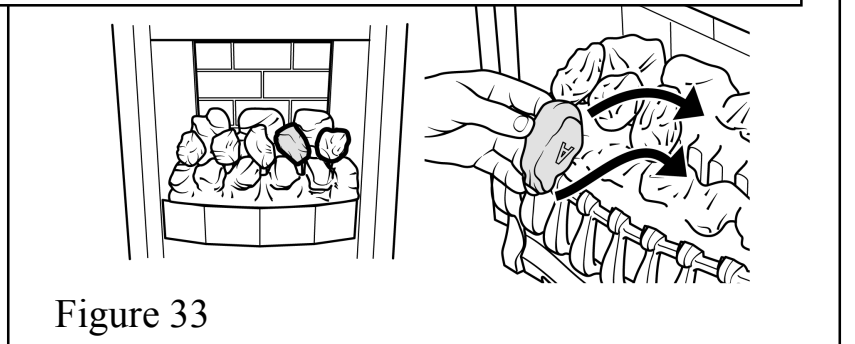

Figure 33
9. Place the remaining type "A" coal between the front and rear base coals. The letter "A" should be upside down with its rear face between the right and centre coals of the rear base coal. Angle the coal so that the gap between it and the type "B" coal to its right is appreciably larger than the gap between it and the type "A" coal to its left but do not have it touching the type "A" coal. This will give the best flame effect. See figure 33.